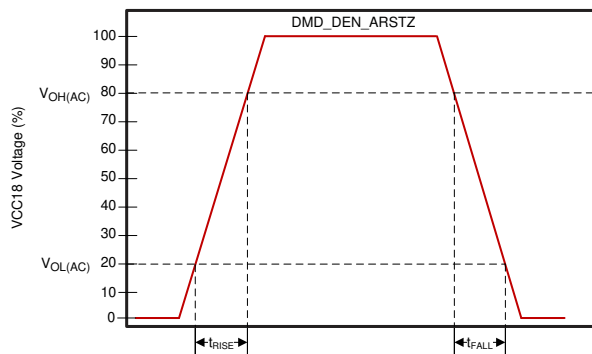
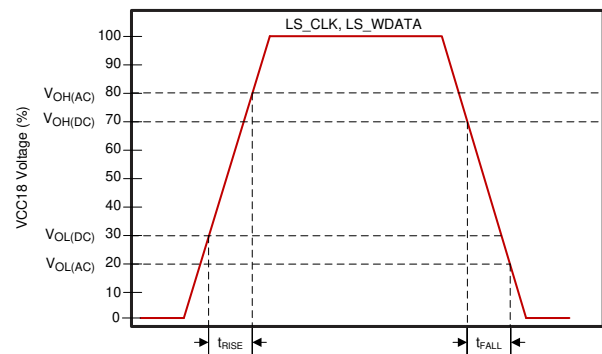

图 6-3. DMD\_DEN\_ARSTZ Slew Rate
图 6-4. LS\_CLK and LS\_WDATA Slew Rate
- See Figure 6-4 for DMD\_LS\_CLK, and DMD\_LS\_WDATA rise and fall times. See Figure 6-3 for DMD\_DEN\_ARSTZ rise and fall times.